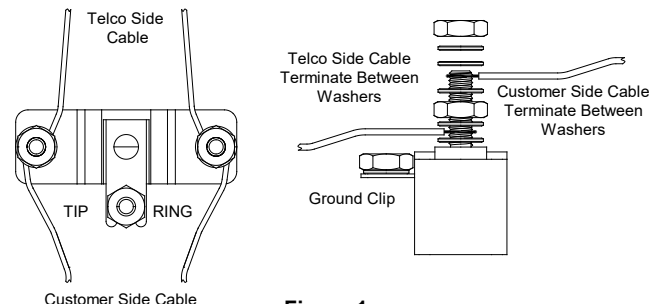

Figure 1
- Terminate the Telco Side cable in between the bottom set of washer and bottom nut of the appropriate stud (one conductor to Tip and one to Ring) and tighten down (Figure 1).
- Terminate the Customer Side Cable under the top set of washers and the top nut of the appropriate stud (one conductor to Tip and one to Ring) and tighten down (Figure1).